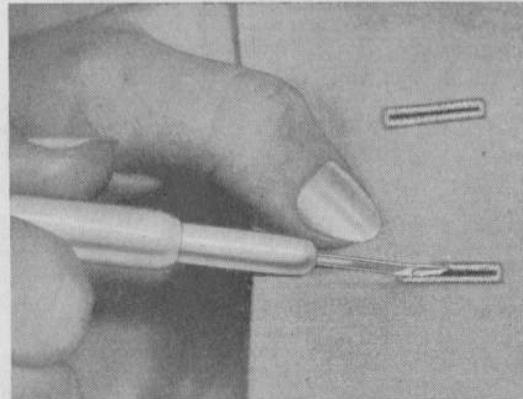

FIG. 31
- I. Insert the cutter at one end of the buttonhole and carefully cut material between the two rows of purl stitches. (See fig. 31).